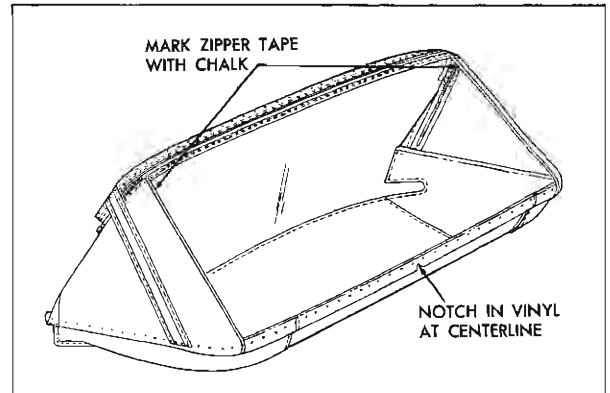

Fig. 21-57 Marking Zipper Tape
14. Using chalk or similar material, mark zipper tape at upper edge of vinyl (Fig. 21-57).